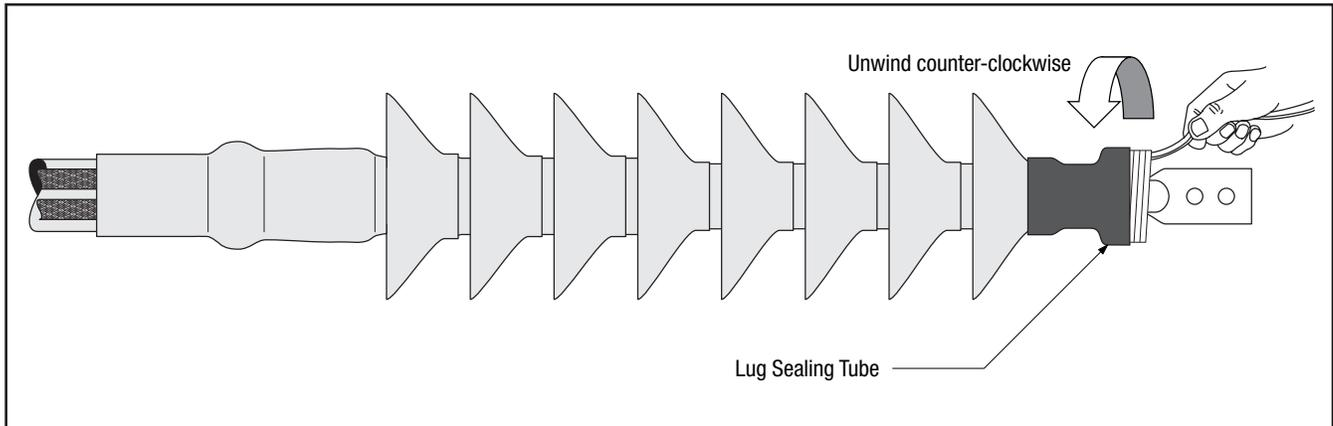

Figure 18
6.2 Slide the lug sealing tube onto the lug/termination, as shown. Start to shrink the tube near the top of the last skirt and onto the lug barrel. If the tube overlaps the lug pad or is not tight to the lug barrel, carefully trim the tube just past (1/4" or 6 mm) the Scotch® Rubber Mastic Tape 2228 sealing tape. A roll of Scotch® Silicone Rubber Tape 70 is provided to cover the edge of the trimmed tube, apply with moderate tension, stretching only enough to conform to the lug barrel and tube. (Figure 18)